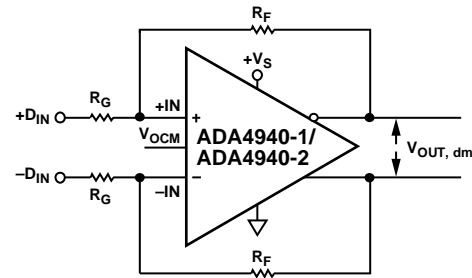

Figure 64. ADA4940-1/ADA4940-2 Configured for Balanced (Differential) Inputs
**Table 15. Differential Ground-Referenced Input, DC-Coupled,  $R_L = 1\text{ k}\Omega$  (See Figure 64)**
The effective input impedance of a circuit depends on whether the amplifier is being driven by a single-ended or differential signal source. For balanced differential input signals, as shown in Figure 64, the input impedance ( $R_{IN, dm}$ ) between the inputs ( $+D_{IN}$  and  $-D_{IN}$ ) is simply  $R_{IN, dm} = 2 \times R_G$ .